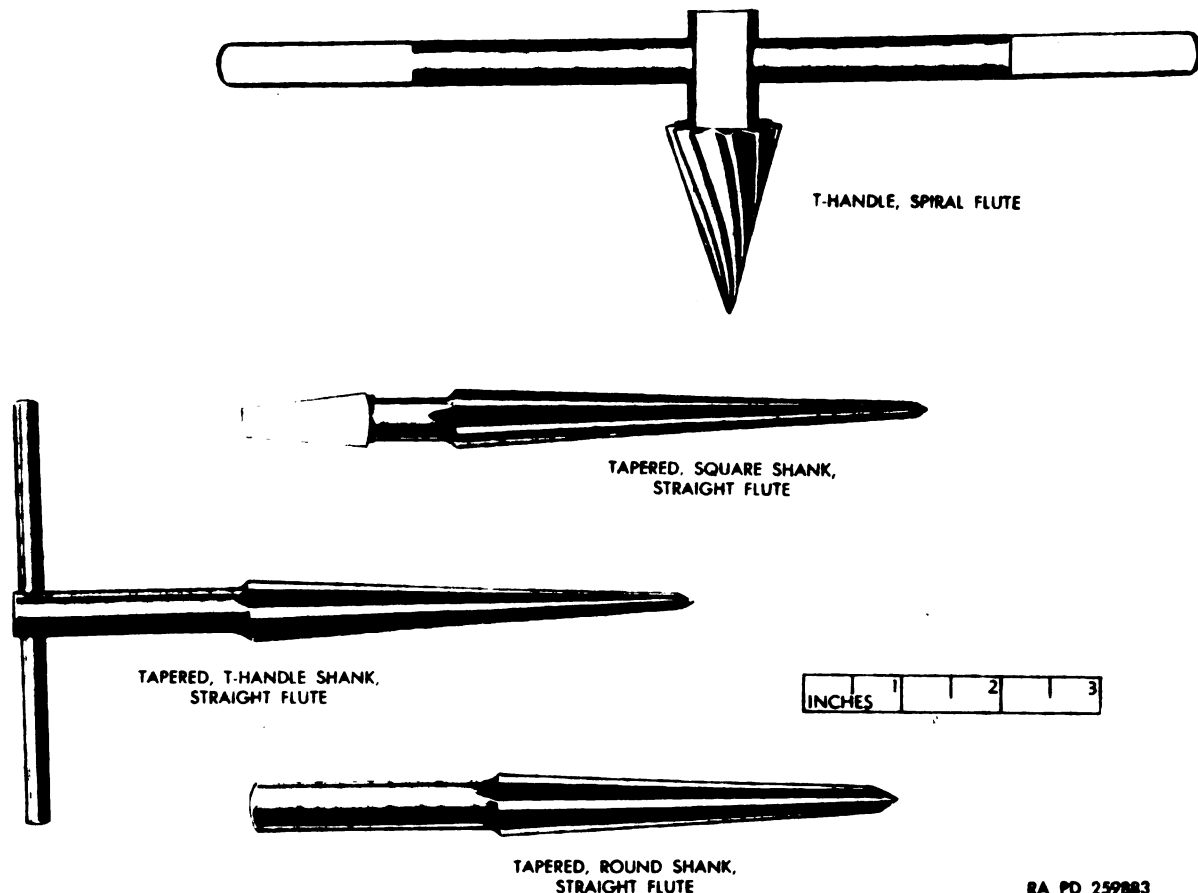

Figure 262. Pipe reamers.
e. Pipe Reamers. Pipe reamers (fig. 262) are made of carbon steel, they are tapered, with straight or spiral flutes. They are issued in three sizes; $\frac{1}{8}$ - to 1-inch pipe capacity, $\frac{1}{4}$ - to $1\frac{1}{4}$ -inch pipe capacity, and $\frac{1}{4}$ - to 2-inch pipe capacity. Most pipe reamers are designed to receive a T-handle.